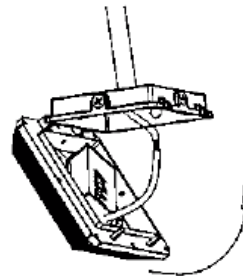

Figure 1-6
6. Turn the radiator up then cover the driver box; Figure 1-6